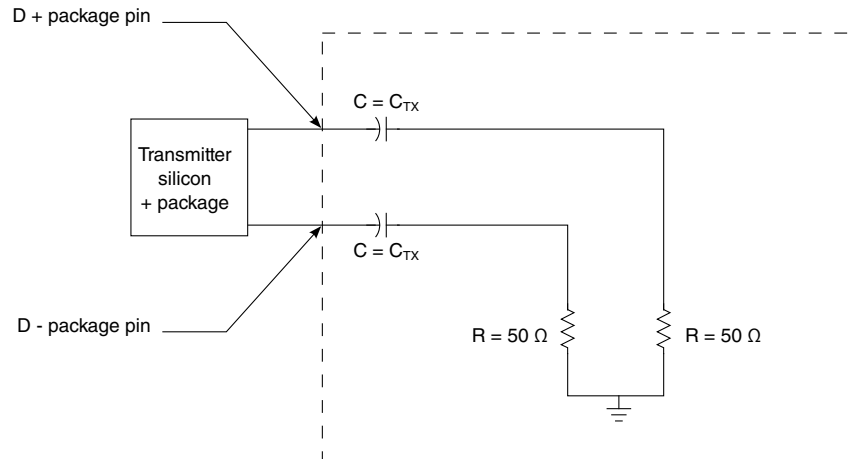

Figure 76. Test/measurement load
1. Specified at the measurement point into a timing and voltage test load as shown in Figure 76 and measured over any 250 consecutive transmitter UIs.
| <p>1. Specified at the measurement point and measured over any 250 consecutive UIs. The test load in Figure 76 must be used as the receiver device when taking measurements. If the clocks to the receiver and transmitter are not derived from the same reference clock, the transmitter UI recovered from 3500 consecutive UI must be used as a reference for the eye diagram.</p> <p>2. A $T_{RX-EYE} = 0.40$ UI provides for a total sum of 0.60 UI deterministic and random jitter budget for the transmitter and interconnect collected any 250 consecutive UIs. The TRX-EYE-MEDIAN-to-MAX-JITTER specification ensures a jitter distribution in which the median and the maximum deviation from the median is less than half of the total. UI jitter budget collected over any 250 consecutive transmitter UIs. It must be noted that the median is not the same as the mean. The jitter median describes the point in time where the number of jitter points on either side is approximately equal as opposed to the averaged time value. If the clocks to the receiver and transmitter are not derived from the same reference clock, the transmitter UI recovered from 3500 consecutive UI must be used as the reference for the eye diagram.</p> <p>3. It is recommended that the recovered transmitter UI is calculated using all edges in the 3500 consecutive UI interval with a fit algorithm using a minimization merit function. Least squares and median deviation fits have worked well with experimental and simulated data.</p> <p>4. For recommended operating conditions, see Table 3.</p> | | | | | | |